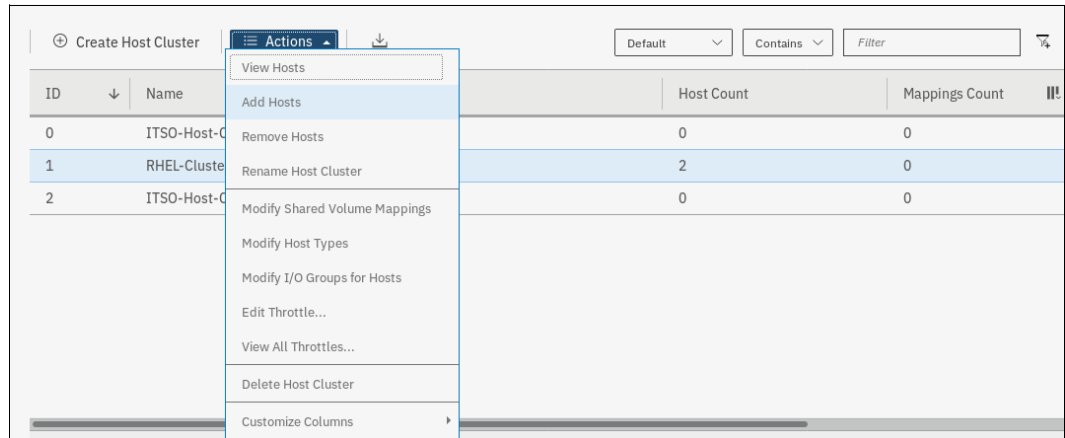

Figure 5-76 Selecting the Host Cluster
1. From the **Host Clusters** window, select the wanted host cluster to which you want to add members and click **Actions**, as shown in Figure 5-76.